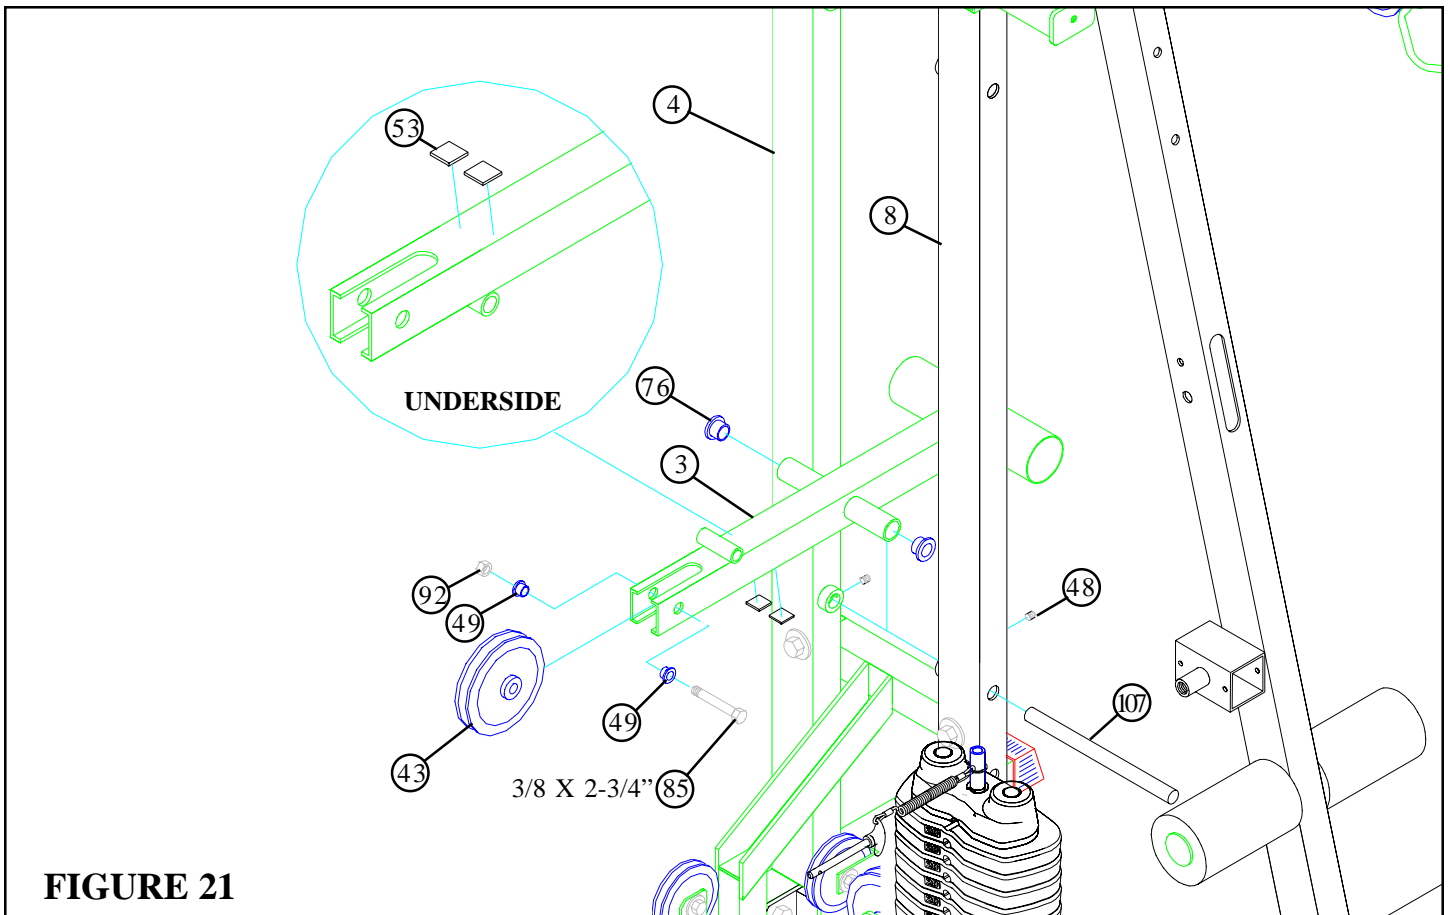

FIGURE 21
- **SECURELY** attach one 4-1/2" PULLEY(43) to the COUNTER LEVER (3) using one 3/8 X 2-3/4" BOLT (85), two 3/8" FLANGE SPACERS (49) and one 3/8" LOCK NUT (92). See FIGURE 21.
- Insert two 3/4" FLANGE BEARINGS (76) into the COUNTER LEVER (3) as shown in FIGURE 21.
- Hold the COUNTER LEVER (3) between the REAR (4) and MIDDLE UPRIGHTS (8) and slide the 3/4 DIA X 11" SHAFT (107) throught the MIDDLE UPRIGHT (8), COUNTER LEVER (3), and through the collar on the REAR UPRIGHT (4). To **SECURE** the SHAFT (107) in place, insert two 5/16" SET SCREWS (48) into the collars on the UPRIGHTS and tighten. See FIGURE 21.